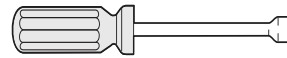

Fig. 2
- 1/4" & 5/16" Nutdriver or flat head screwdriver (Fig. 2).